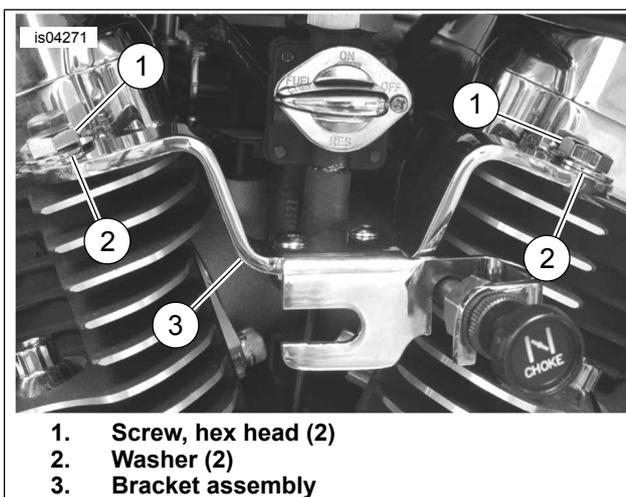

Figure 6. Install Bracket Assembly to Engine (1200C Shown)
7. See Figure 6. Obtain the two hex head screws (1) and washers (2) from kit. Align the bracket assembly (3) as shown and install to cylinder heads using screws with washers. Tighten screws to 41–47 N·m (30–35 ft-lbs) .